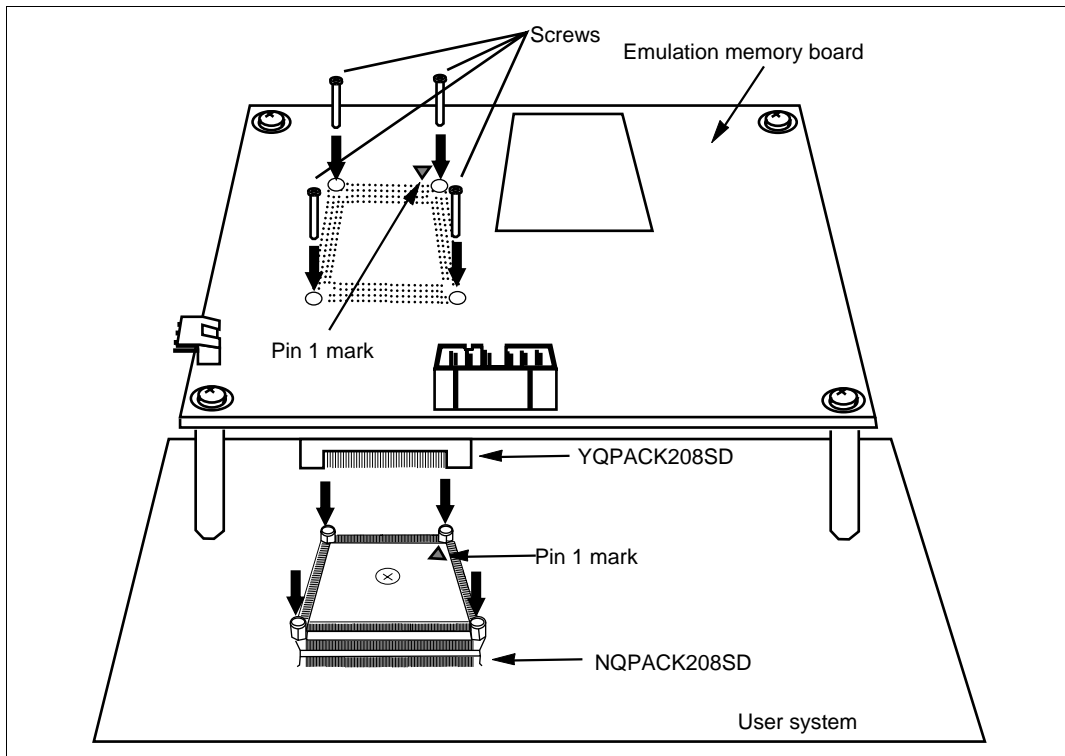

Figure 5.2 Connecting Emulation Memory Board to User System
3. After inserting the YQPACK connector on the emulation memory board into the NQPACK socket of the user system, fix the emulation memory board in place with the supplied screws, as shown in figure 5.2.